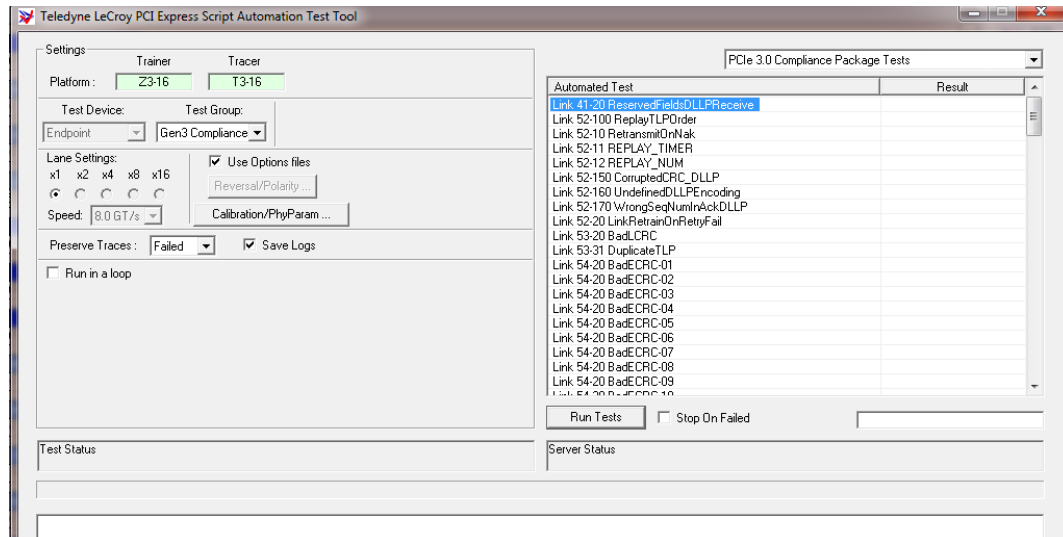

Figure 3.2: Script Automation Test Tool GUI.
- When the software begins to run, the following window will appear (Figure 3.2). All testing is carried out using this GUI.